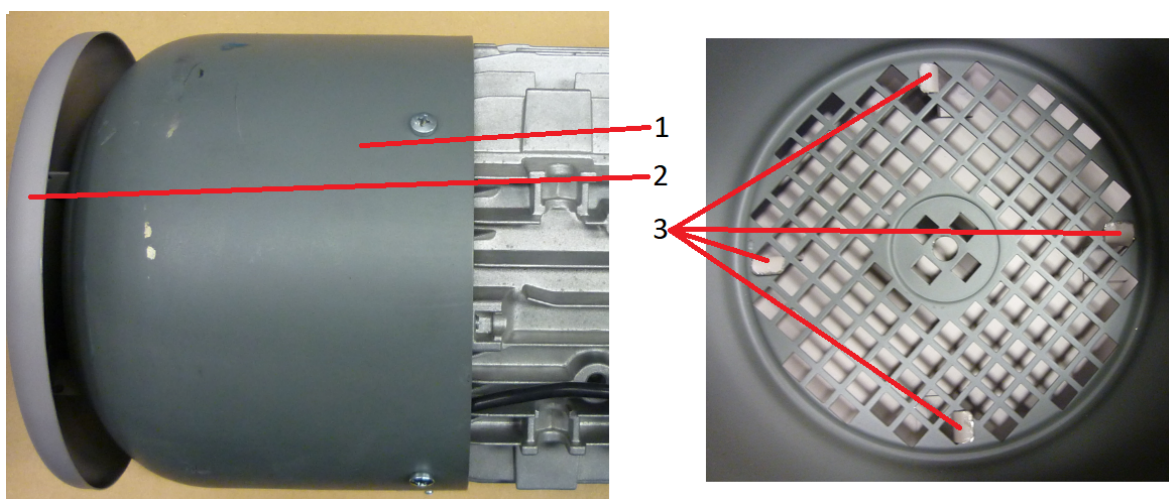

Figure 4.5: Regenschutzhaube
For HEW-RUF motors, the rain protection hood (2) is always used in combination with the fan cover (1) (siehe Abbildung 4.5). This is the responsibility of the supplier! The hood must only be disassembled at the customers' for upward mounted shafts (protection hood points downward). For this, the fan cover (1) must be disassembled first. After this, the rain hood (2) with positive connection can be removed. For this, straighten the four lugs (3) using appropriate universal pliers. Finally, the fan cover (1) must be refitted.